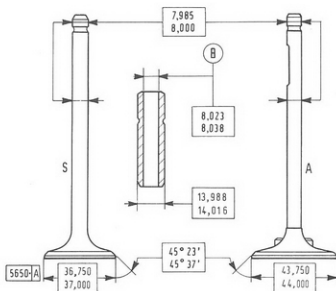

Fig. 16 - Valve and Guide Details
Valves, Valve Guides and Springs Valve stem working clearance (see Fig. 16) — Wear allowance Standard valve guide O.D. Spare valve guide O.D. oversize Valve guide interference fit Valve spring data:— — A.M. inner spring Free length Length under 6.55 to 7.55 kg (14.44 to 16.64 lb.) (valve closed) Length under 15.4 to 16.7 kg (33.95 to 36.82 lb.) (valve open) — A.M. outer spring:— Free length Length under 19.3 to 21.7 kg (42.55 to 47.84 lb.) (valve closed) Length under 36.4 to 39.4 kg (80.26 to 86.87 lb.) (valve open) — P.M. single spring (1):— Free length Length under 30.1 to 33.9 kg (66.37 to 74.74 lb.) (valve closed) Length under 48.1 to 52.1 kg (106.06 to 114.88 lb.) (valve open)023 to .053 mm (.0009 to .0020 in.) .20 mm (.008 in.) 13.988 to 14.016 mm (.5507 to .5517 in.) .2 mm (.008 in.) .005 to .050 mm (.0002 to .002 in.) 51 mm (2.008 in.) 37.5 to 38.5 mm (1.475 to 1.515 in.) 26.8 to 28.8 mm (1.055 to 1.139 in.) 63 mm (2.480 in.) 40.5 to 41.5 mm (1.593 to 1.633 in.) 29.8 to 31.8 mm (1.173 to 1.251 in.) 66.5 mm (2.617 in.) 40.5 to 41.5 mm (1.593 to 1.633 in.) 29.8 to 31.8 mm (1.173 to 1.251 in.)
If the valves show signs of defective sealing, hone together with the seats using air honer Part No. **290064** or hand honer Part No. **290891**. Subsequently, the parts involved should be carefully washed to eliminate all abrasive matter. If necessary, rebore the valve seats (see pages 19 and 20) and grind the valves as necessary (see Fig. 16). The minimum land below valve head chamfer should not be less than .5 mm. (.020 in.).